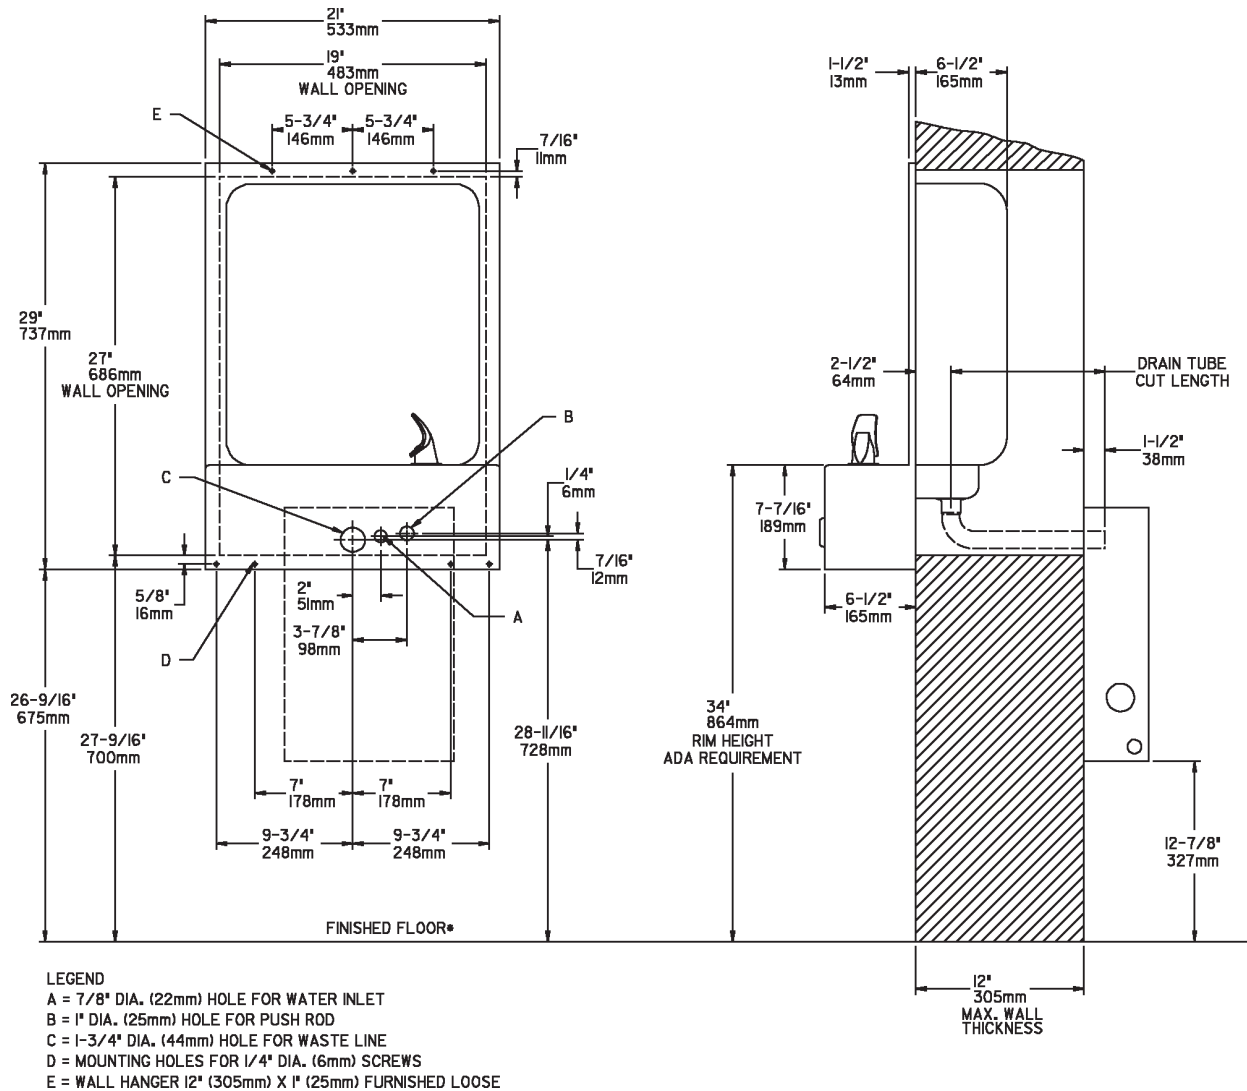

FIG. 3
1. **Wall should already be framed for the fountain using dimensions shown in Fig. 3.**
3. **Attach the hanger bracket** to the wall as shown in Fig. 3. Use bolts and flat washers (not provided). Tighten securely.